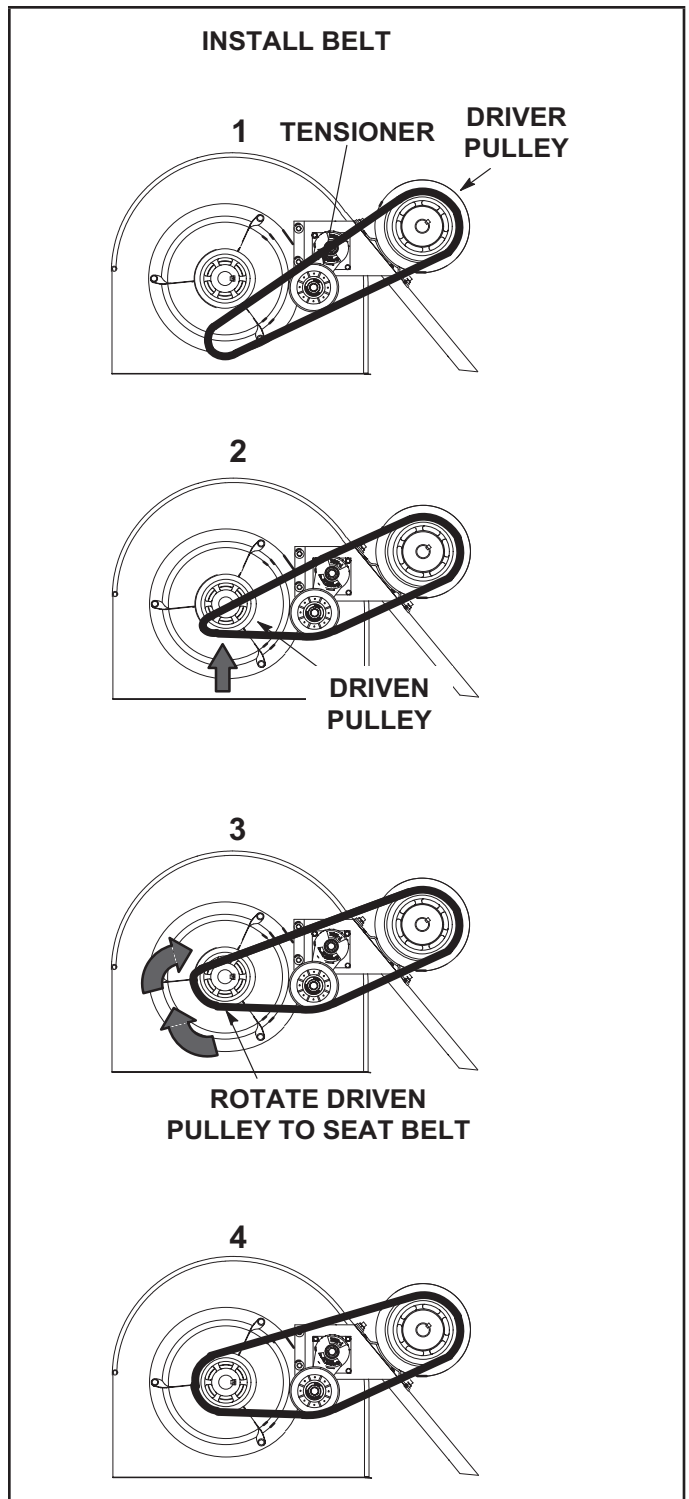

FIGURE 15
- 6 - Replace blower belt. See figure 15.